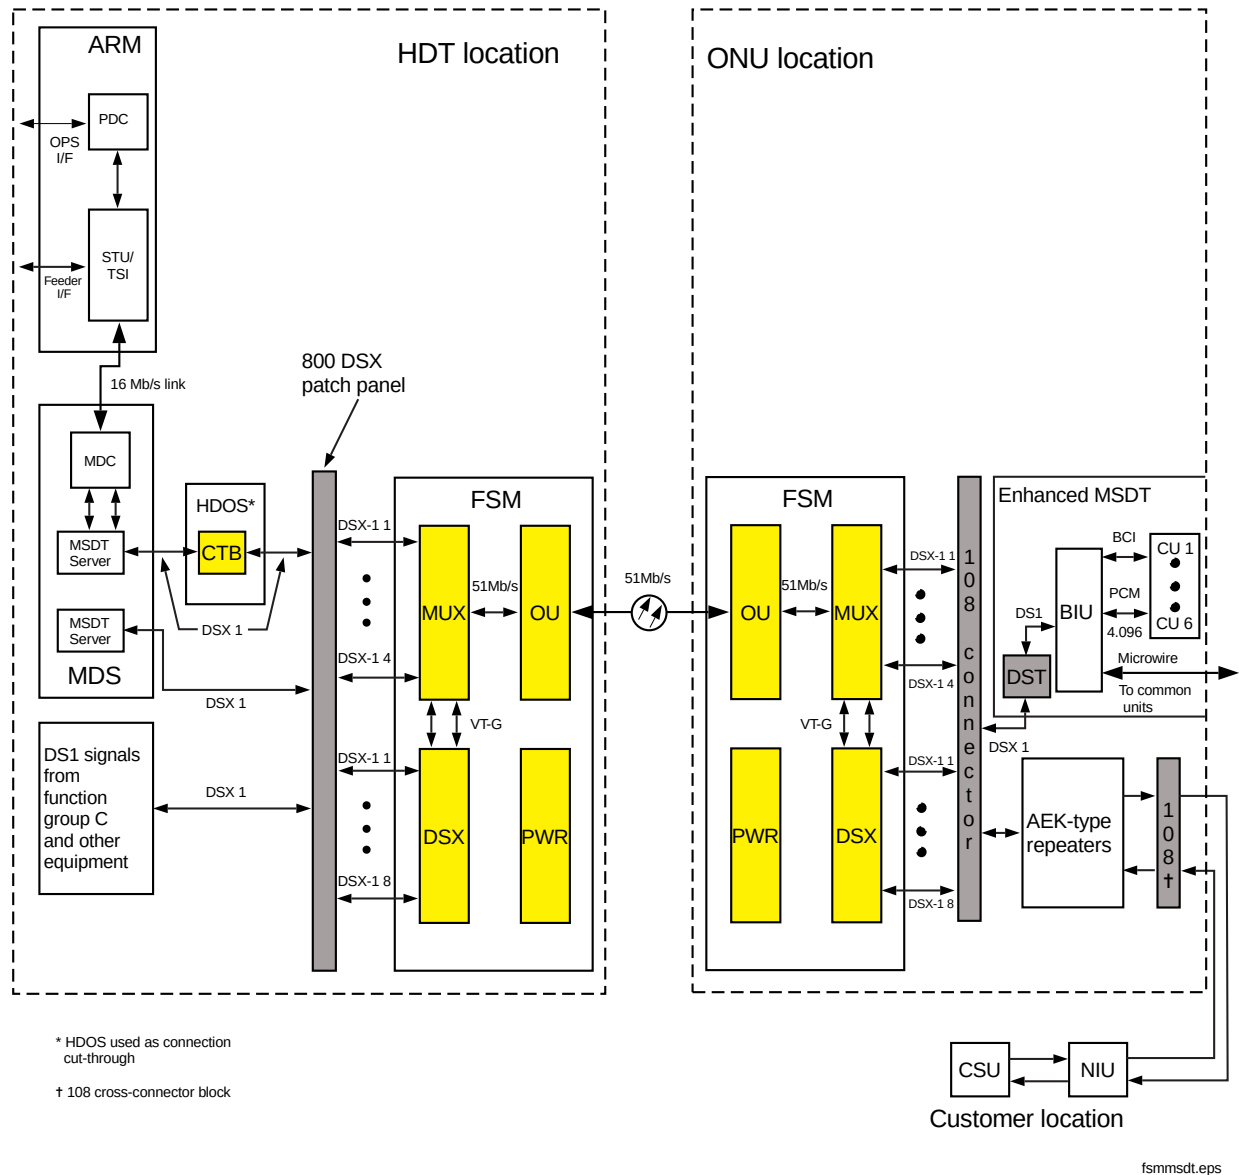
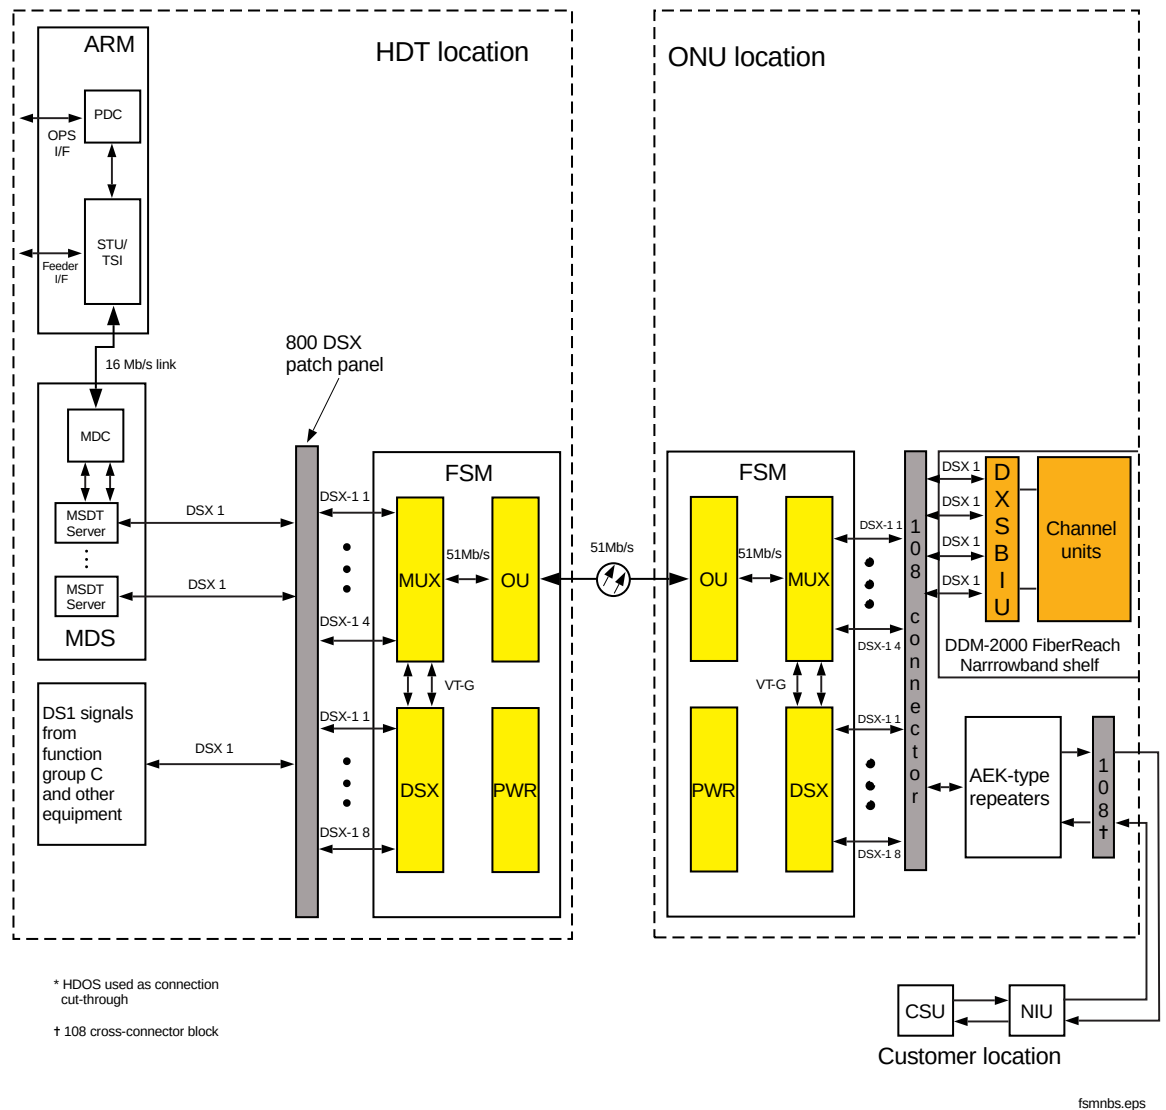

Figure A-1. Block Diagram of the Fiber Service Module (FSM) in a Typical HDT-to-MSDT Arrangement
Figure A-2. Block Diagram of the Fiber Service Module (FSM) in a Typical HDT-to-NBS Arrangement
The FSM provides expanded fiber-in-the-loop (FITL) distribution capability for Multi-Services Distant Terminals (MSDTs) or DDM-2000 FiberReach Terminal Narrowband Shelves (NBSs) using DSX-1 transmission extensions (no protection switching). Located at both the *SLC-2000* host digital terminal (HDT) site and at the optical network unit (ONU) locations, the FSM multiplexes up to 12 DSX-1s into a single 51.84-Mb/s digital bit stream for optical fiber transport. The optical loss budget is 10 dB from the HDT to the ONU site. Figure A-1 shows a block diagram of the FSM in an HDT-to-MSDT arrangement. Figure A-2 shows a block diagram of the FSM in an HDT-to-NBS arrangement.
When using the FSM with the *SLC-2000* MSDT (Figure A-1), you replace the high density optics shelf (HDOS) optical unit (OU) with a specially designed *cut-through board (CTB)*. As shown in Figure A-1, this board interfaces between the MSDT or DT Server (*SPQ*®808, *SPQ*809, or *SPQ*810 circuit pack) and the FSM. The FSM does not affect existing link requirements between the Server and the MSDT.
Figure A-1 also shows a configuration that does not use the HDOS shelf. In this case, the MDS is wired directly to a DSX patch panel. However, when using this configuration, all MSDT or DT Servers on that specific MDS shelf *must* go through the FSM. This configuration is not as flexible as using the HDOS/CTB configuration.
When using the FSM with the DDM-2000 FiberReach Narrowband Shelf, the DSX-1 signal from the Server is wired to the FSM through the patch panel (Figure A-2).
When the FSM is the digital pipe to the HDT from the *SLC-2000* MSDTs, you replace the MSDT OU with a *digital signal translator* (DST) circuit pack. As shown in Figure A-1, this board interfaces between the backplane interface unit (BIU) of the MSDT and the FSM.